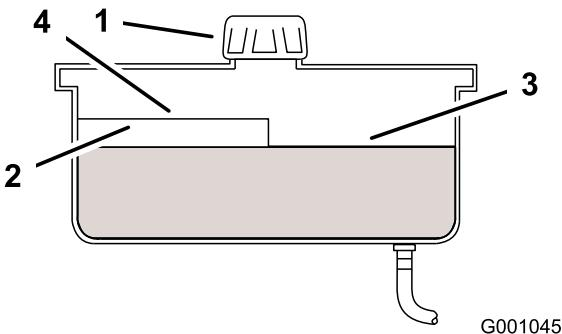

Figure 54
4. Clean area around cap and filler neck of hydraulic tank (Figure 54).
5. Remove cap from filler neck. Look inside to check if there is fluid in the reservoir. (Figure 54).
Note: The fluid level should be to the top of the hot level of the baffle, when the fluid is warm (Figure 54).